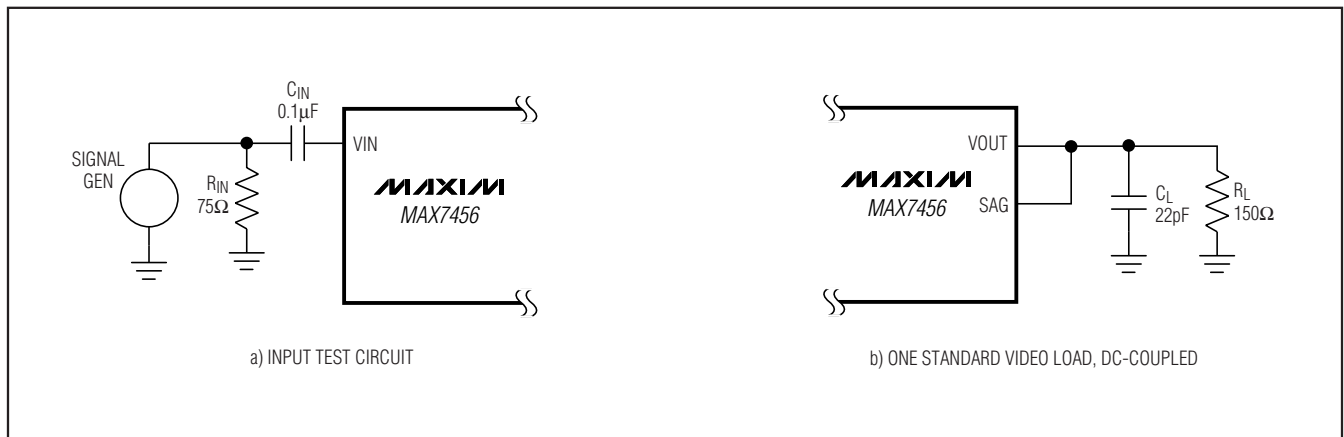

Figure 1. Standard Test Circuits
**Note 1:** See the standard test circuits of Figure 1.  $R_L = 75\Omega$ , unless otherwise specified. All digital input signals are timed from a voltage level of  $(V_{IH} + V_{IL}) / 2$ . All parameters are tested at  $T_A = +85^\circ C$  and values through temperature range are guaranteed by design.